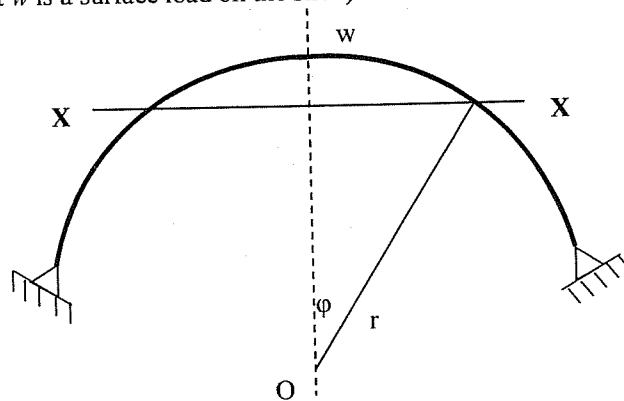

Figure Q7
- (ii) Spherical shell has a radius  $r$  as shown in Figure Q7. It is subjected to its self-weight  $W$  per meter length. (Note that  $w$  is a surface load on the shell)